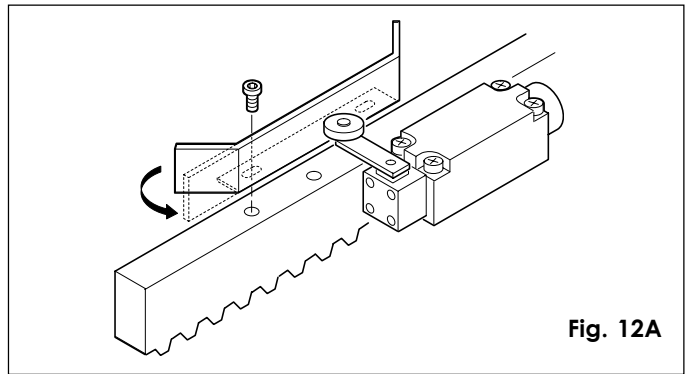

Fig. 12A
The operator is equipped with a mechanical travel stop with roller and trigger. The movement of the gate is stopped when a bent travel stop plate fixed to the top of the rack operates the trigger, tripping the microswitch (fig. 12A).
Note: the travel stop plates may be fastened by means of screws, if desired (fig. 12A).
- The limit switch must be tripped by the initial bent part of the travel stop plate, as shown in fig. 12A.
- It is advisable to straighten the final bent part of the travel stop plate, as shown in fig. 12A, in order to prevent the plate from passing the limit switch.